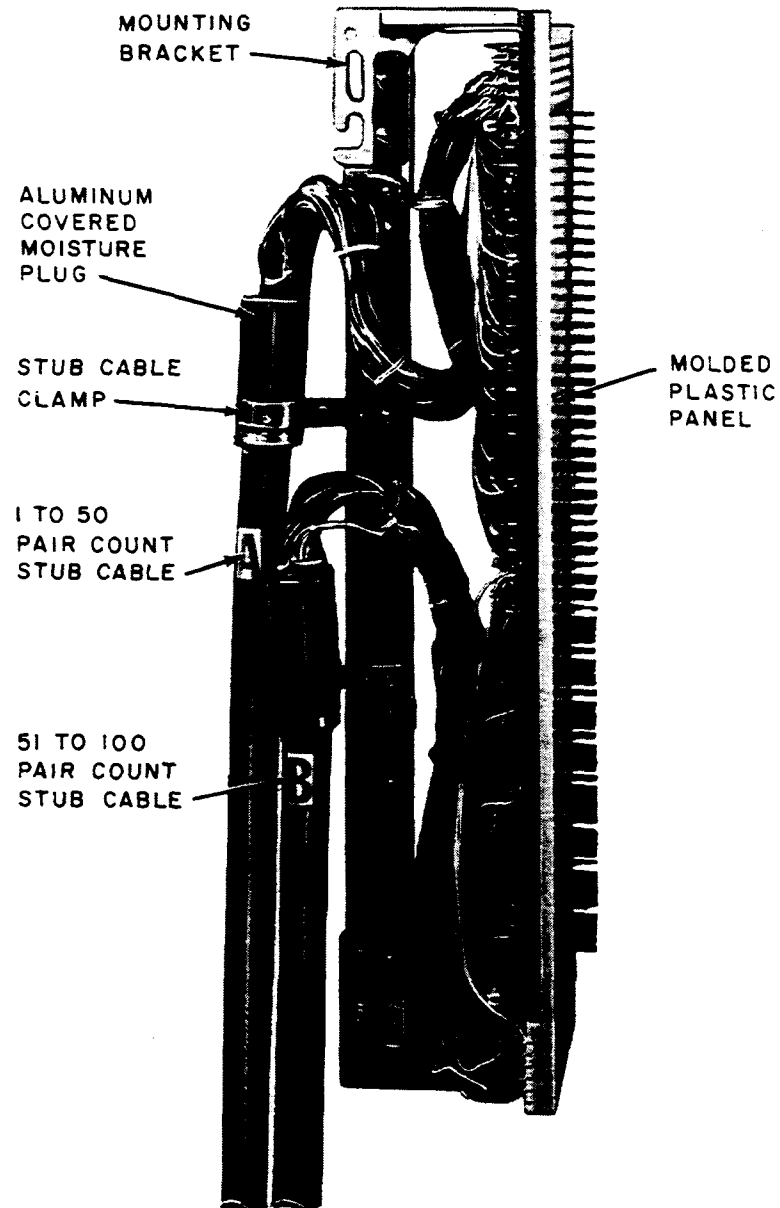

Figure 3—303B3-50 Connector
2.07 The 303B3-50 connector (Figure 3) has two factory-connected color-coded 50-pair stub cables (CA-1932), consisting of 22-gauge tinned-copper PVC-insulated conductors, mylar tape core wrapper, and a corrugated aluminum shield under an olive-gray colored PVC jacket.